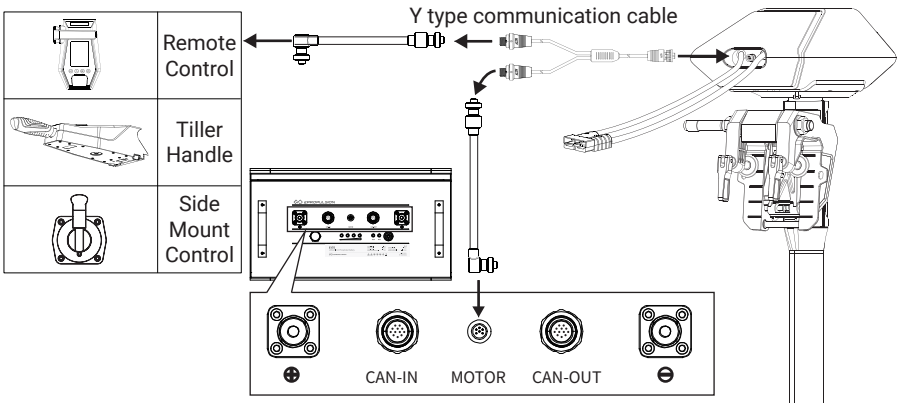

Figure 2-2
3. If you need to use the ePropulsion outboard with a wired remote control, tiller, side mount control or other control systems, it recommends you use a Y-type communication cable (purchased separately) to connect your equipment (refer to figure 2-2).